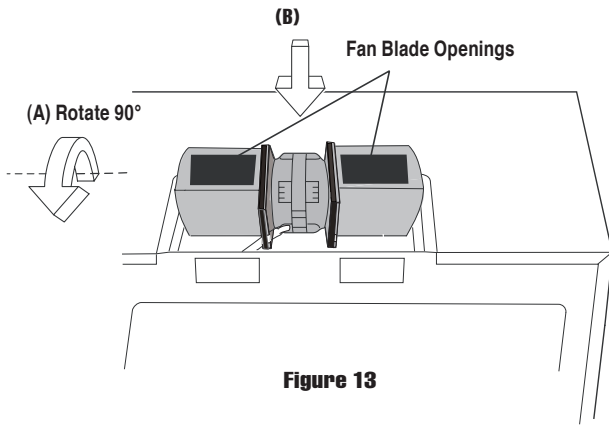

Figure 13
3. Rotate the Hood Fan Unit 90° so that the Fan Blade Openings are facing the top of the oven. See Figure 13 on page 6. Replace Hood Fan Unit into the oven. Be careful not to pinch the lead wire between the inner bracket and the Hood Fan Unit. Put the lead wire into Wire Box.